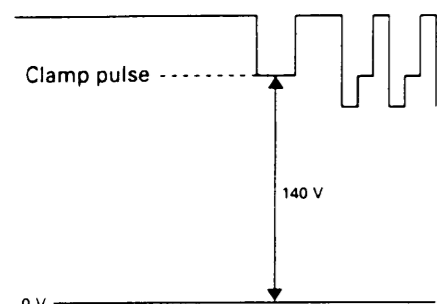

Fig 2.
- Adjust the voltage of the clamp pulse to +140V with Ug2 (see fig 2).